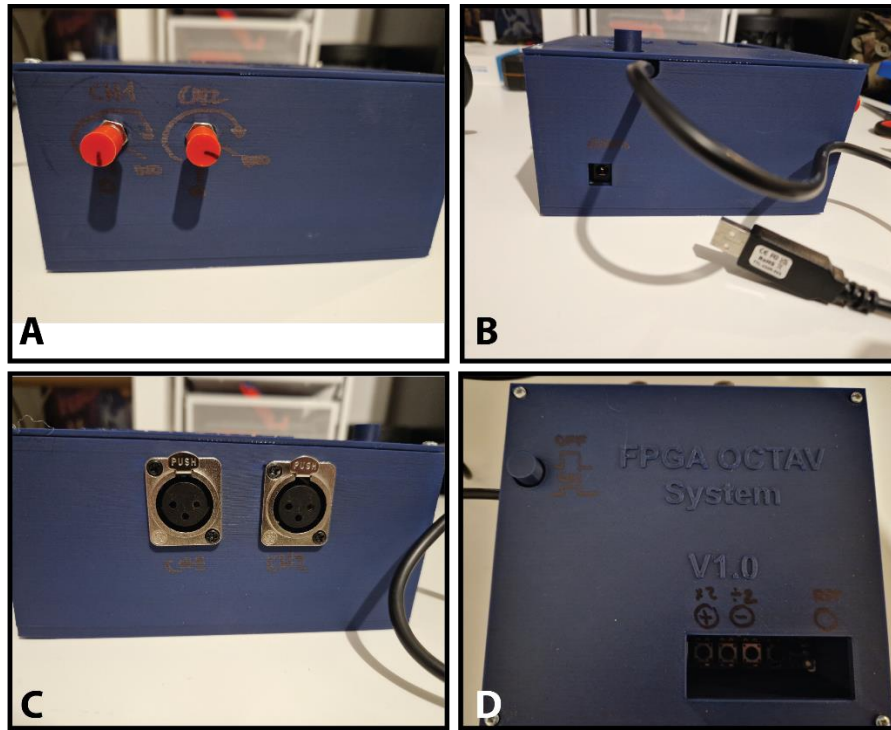

Figure 2: the front (A), the left side (B), the back (C) and the top view (D) of the FPGA box.
- Front: Two rotary knobs to adjust gain (**Figure 2-A**)
- Left Side: USB cable and power plug (**Figure 2-B**)
- Back: Two XLR female connectors (**Figure 2-C**)
- Top: Start button on the top left, with a small access window for the development board buttons (**Figure 2-D**)